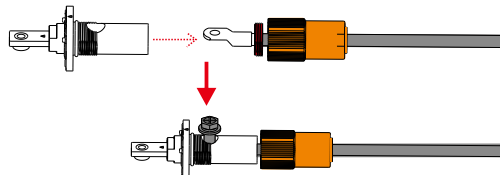

Figure 4.2-4
Step3: Insert the cable into the terminal sockets on inverter, and screw them up , as shown in Figure 4.2-4.